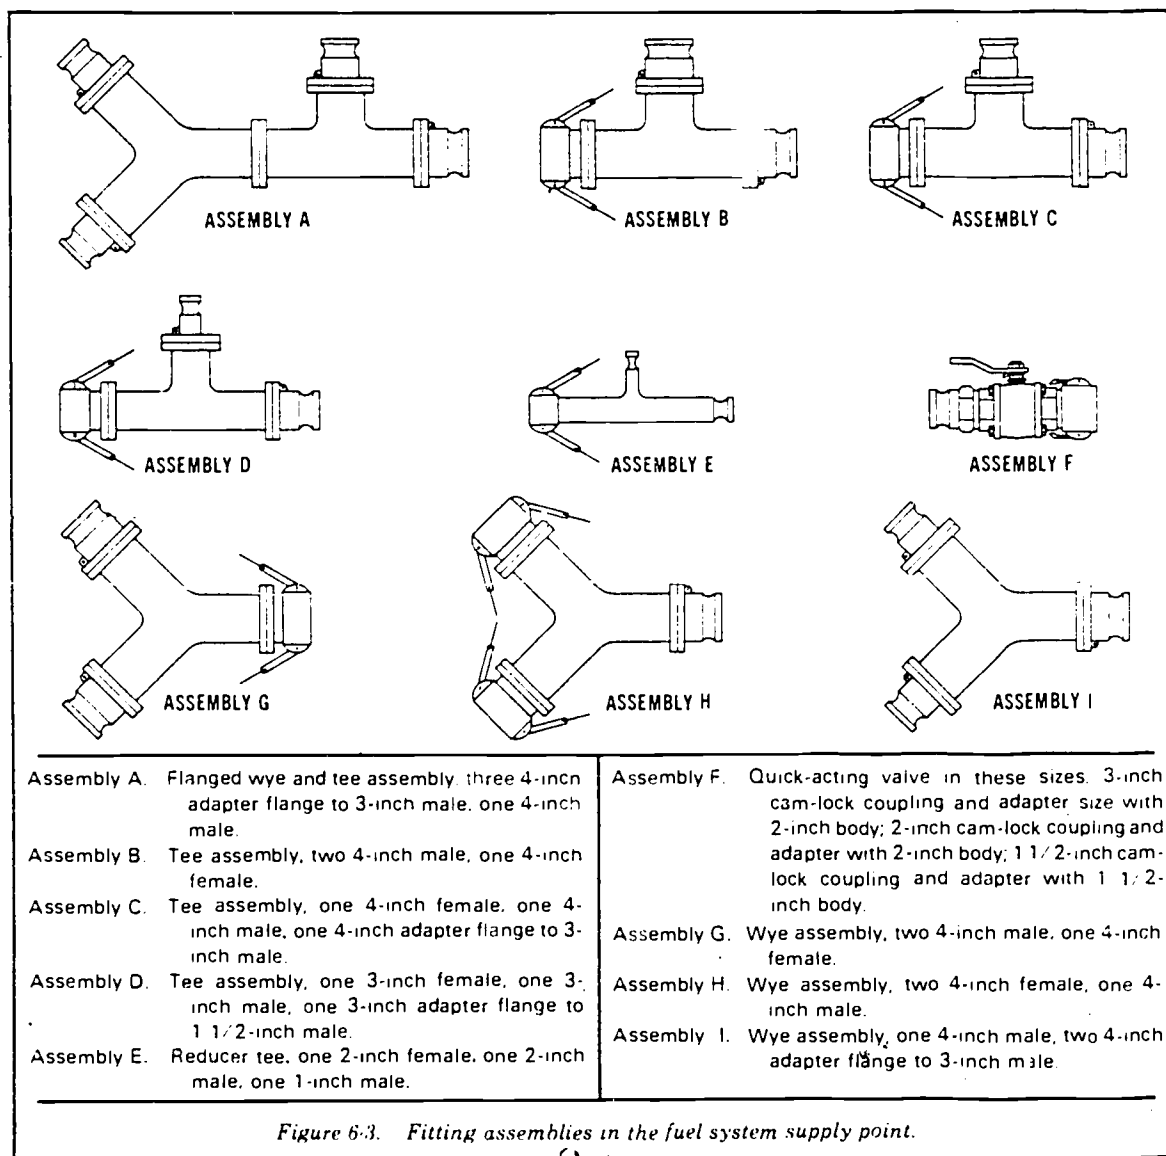

Figure 6-3. Fitting assemblies in the fuel system supply point.
□ **Fitting assemblies.** There are 11 types of fitting assemblies (fig 6-3) in the fuel system to connect hose sections, valves, and components. Dust caps and plugs must be kept on the assemblies when they are not in use. Figure 6-1 shows the location of each fitting assembly.
□ **Accessories and tools.** Accessories and tools come with the fuel system so that it can be connected to different fuel transporters, other pumping assemblies, or pipelines. They can also be used to connect the components of the system in many combinations. The tools used to repair hose assemblies include a hoseclamp locking tool, buckles, and bandings. Accessories include a tank cart-to-hose assembly adapter; a pipe clamp coupling; a pipe coupling for connecting the fuel system to a pipeline; reducers for connecting different size hoses; coupling halves (flanged and threaded) to make a number of connections; and gate valves and wye fittings. ①